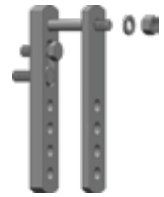

Figure 7
4. Slide a  $\frac{1}{2}$ " split washer onto the frame bolts and thread on a  $\frac{1}{2}$ " nut a few turns. Do not use lock nuts on these bolts. (Figure 7)